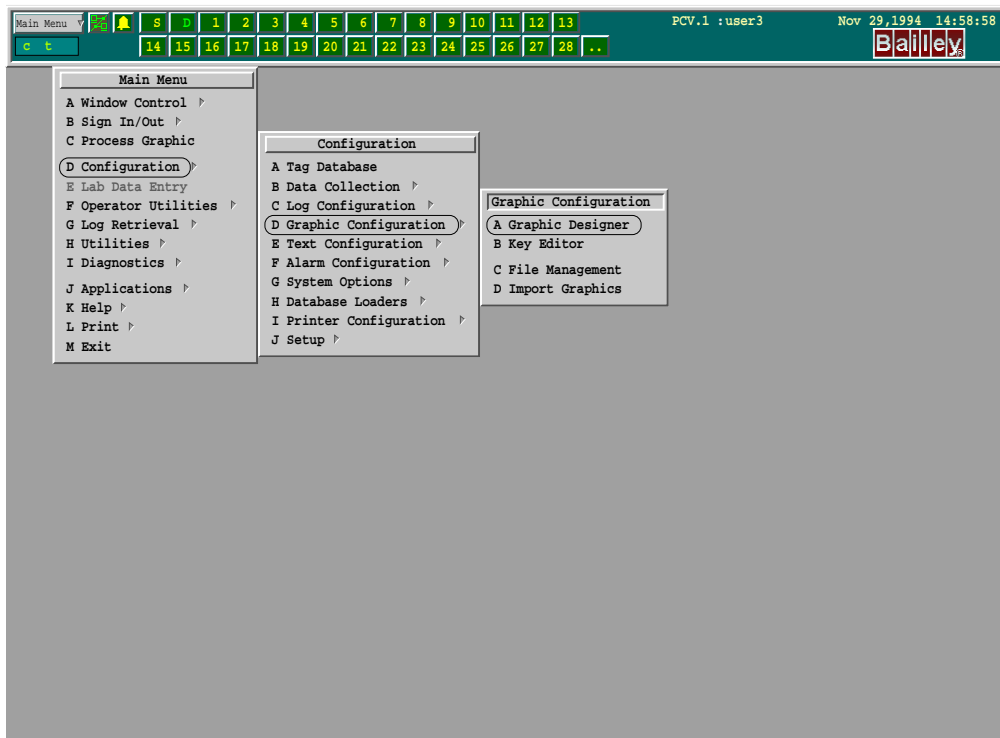

Figure 6-1. Graphics Designer Menu Path
- Call up the **Graphics Designer** (Figure 6-1).